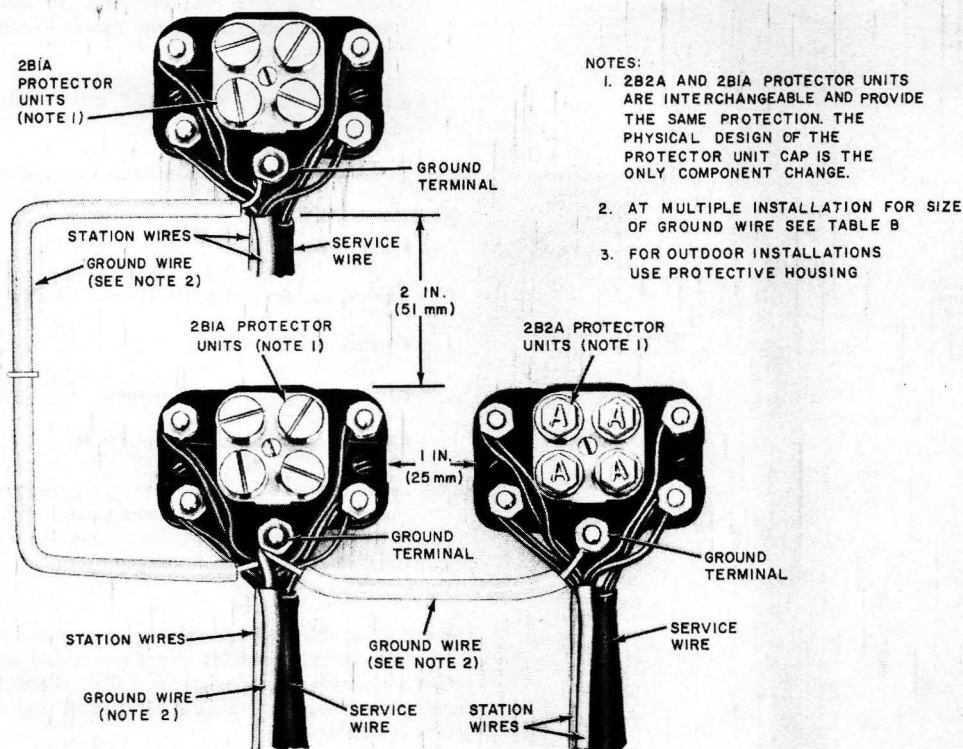

Fig. 31—Installation Protectors in Multiple
4.02 Where more than one protector is installed at the same indoor location, provide a 1-inch separation when protectors are horizontally mounted and a 2-inch separation when protectors are vertically mounted (Fig. 31). When more than one 123- or 128-type protector is installed at the same outdoor location, the protectors may be installed in a ♦C or D customer service closure♦.